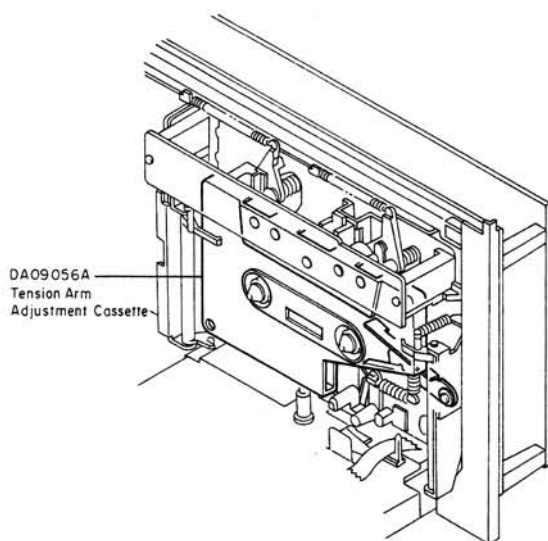
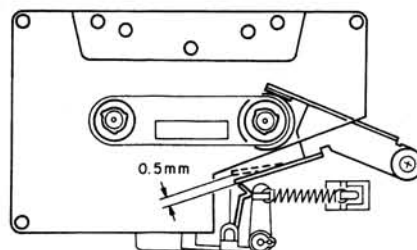

Fig. 2.12
Fig. 2.13
Refer to Figs. 2.12 — 2.15.
- (1) Load a Tension Arm Adjustment Cassette (DA09056B) in the cassette deck referring to Fig. 2.12.
- (2) Set the cassette deck in Play mode.
- (3) Bend the Back Tension Arm with pliers so that the gap between the Cassette Holding Spring assembled on the Head Base Ass'y and the Back Tension Arm becomes 0.5 mm as shown in Fig. 2.13. Do not bend the top of the Back Tension Arm.